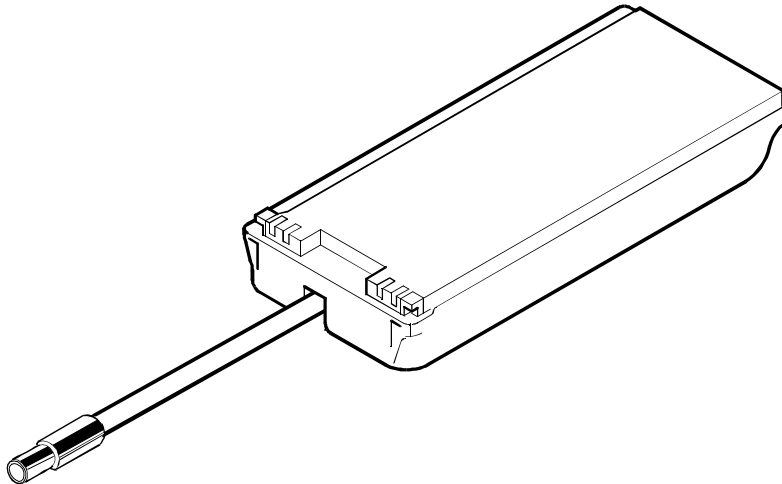

Figure 2: External Battery Supply Unit
4. External Battery Supply Unit (Figure 2)